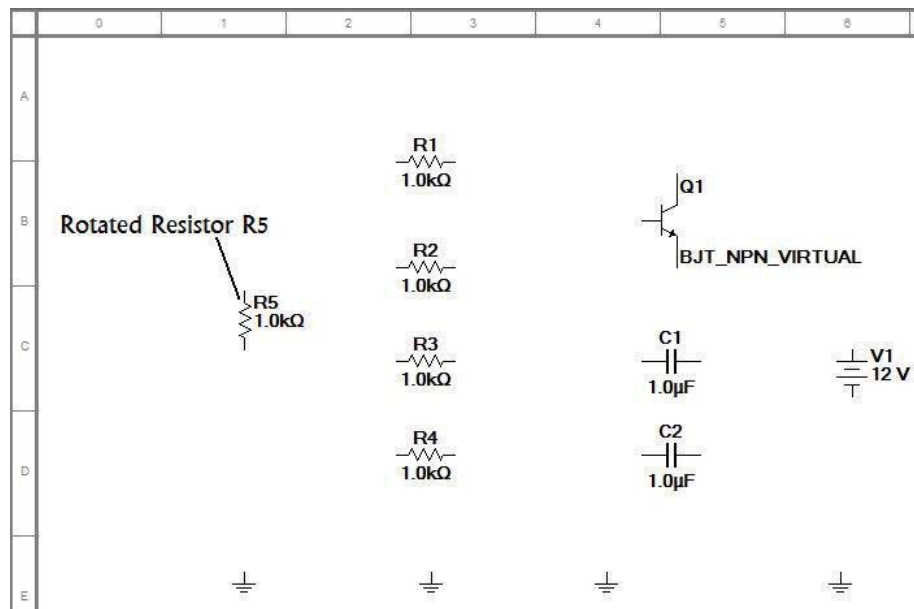

Figure 13
5. The components can be rotated by selecting a component and then using the rotate icon in the circuits tool bar. An alternative method is to use the mouse. Right click on one of your resistors, then scroll down to Rotate and left click on it. See Figure 13